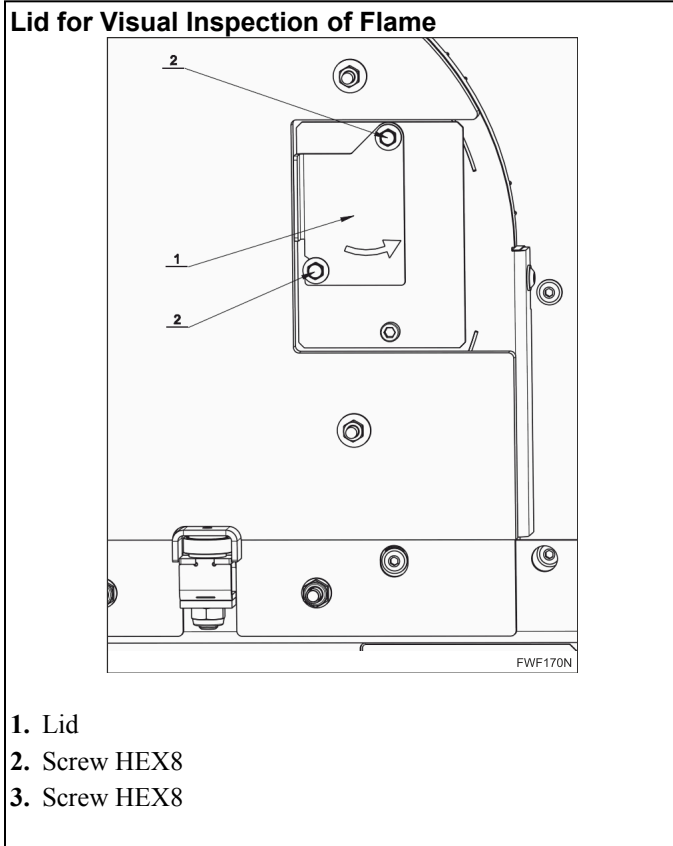
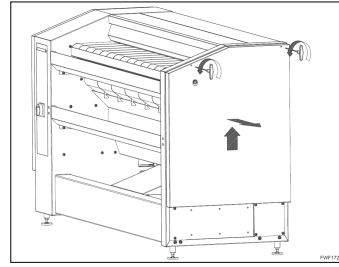

Figure 22
Figure 24
- In the right front face of the heater - (*Figure 22*) - there is a lid for a short-term visual inspection of the flame.
- After the right cover has been disassembled (*Figure 24*) and the two screws HEX8 (2) have been loosened, the lid (1), *Figure 22*, can be tilted.
- Before putting the machine into operation, remove both side covers. Refer to *Figure 24*.